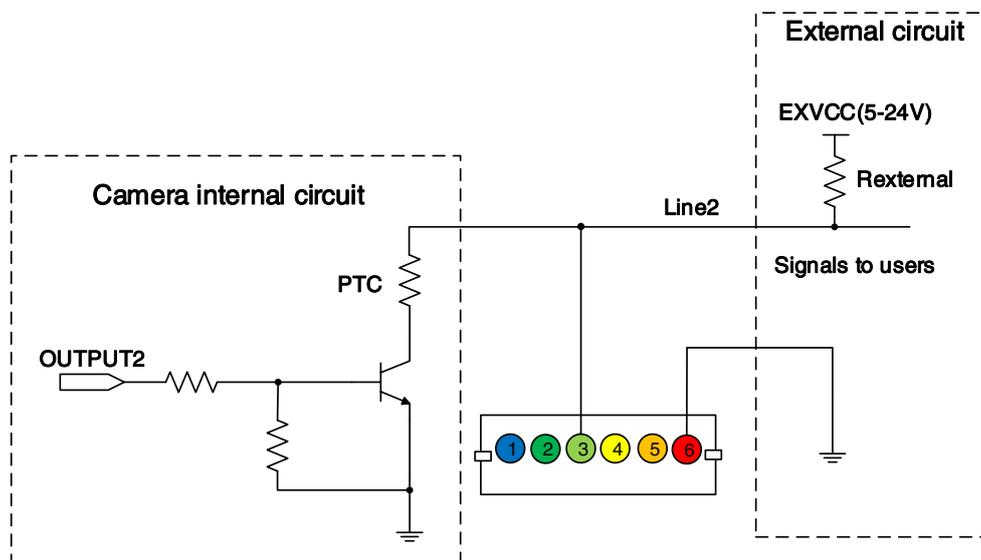

Figure 7-41 Internal equivalent circuit of camera when Line2 is configured as output
- When Line2/3 is configured as output, the internal equivalent circuit of camera is shown in Figure 7-41, take Line2 as an example